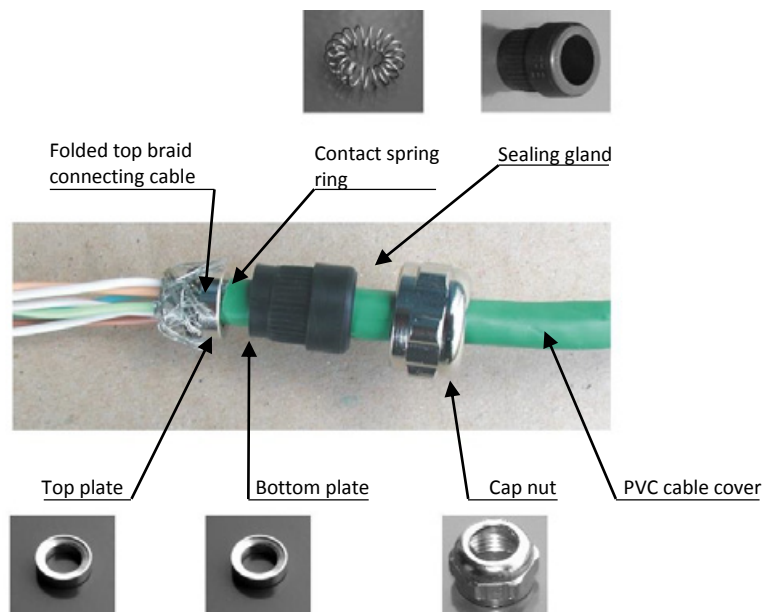

Figure 22 The grommet installation
- The twisted shield will be untwisted and released somewhat. Then it will be pulled over the washers on the cable and shortened at the bottom washer (figure 22). No wire of the shielding must go over the bottom washer, in order to tighten the sealing grommet by the pull-over nut well on the cable, and thus seal the grommet properly.